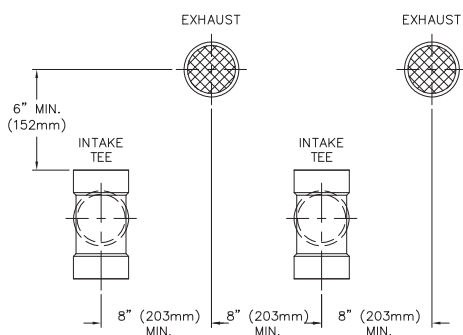

Figure 3.1: Vent Pipe Spacing for Multiple PUREFIRE® Boilers
- For multiple boiler installations, the minimum horizontal distance between the inlet of one boiler to the exhaust of an adjacent boiler is 8" center-to-center. In addition, the minimum vertical distance between the exhaust and air inlet is 6". See Figure 3.1 for an illustration.